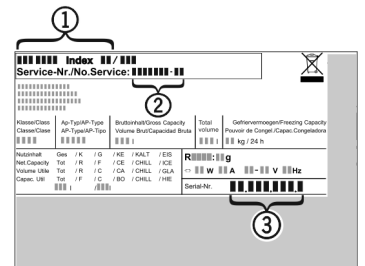

Fig. 3
- ▶ Read the appliance designation *Fig. 3 (1)*, service No. *Fig. 3 (2)* and serial No. *Fig. 3 (3)* off the model plate located inside the appliance on the left-hand side.
- ▶ Notify the customer service, specifying the fault, appliance designation *Fig. 3 (1)*, service No. *Fig. 3 (2)* and serial No. *Fig. 3 (3)*.